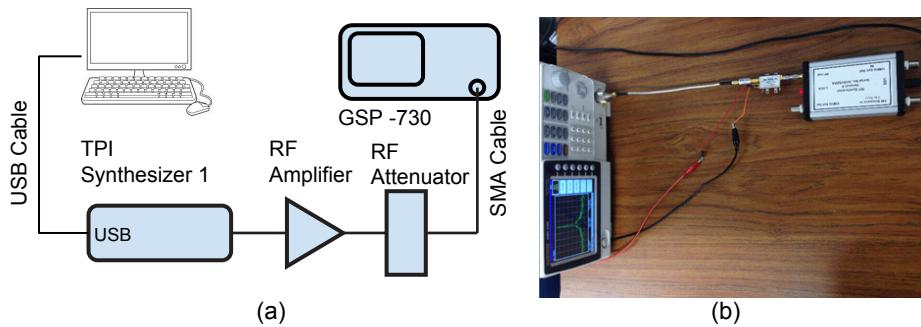

Figure 19: Amplifier bandwidth and gain measurement setup.
3. Connect the “+5VDC” pin of the amplifier to the positive terminal of the lab power supply using a wire; connect the “GND” pin of the amplifier to the ground of the power supply. Fig. 19 shows the measurement setup.